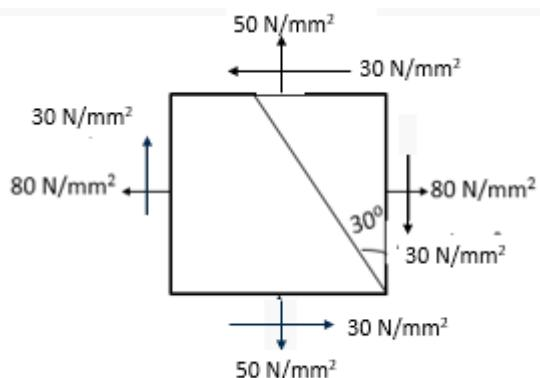

Fig. 9(a)
9. a. At a point in a loaded elastic member, there are normal stresses of 80 N/mm^2 and 50 N/mm^2 both tensile respectively at right angles to each other as shown in Fig. 9(a). The positive shear stress of 30 N/mm^2 are also acting. Draw the Mohr's Circle diagram and find (i) Principal stresses and their planes (ii) Maximum shear stress